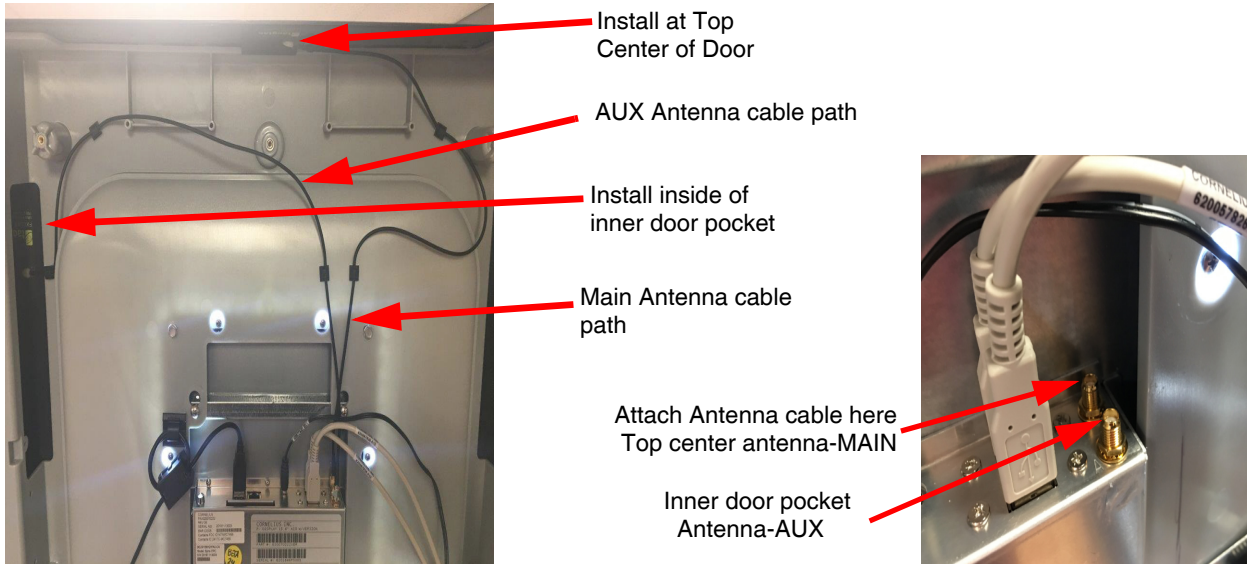

Figure 20
27. Install the (2) adhesive backed LTE antennas, one inside door pocket and one at top center of door (Figure 20). Use the supplied clips, to secure the antenna cables in place. Be sure the clips 'snap' close and that the surfaces on which the antenna and clips are mounting to are clean and free of dirt, oils or foreign matter.